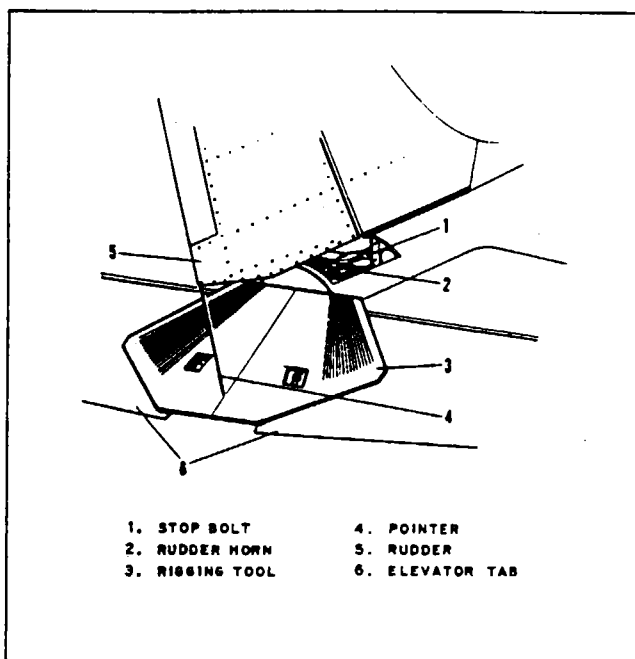

Figure 5-10. Installation of Rudder Rigging Tool
1. Connect the cable (7 and 8) to the rudder sector (17).
2. Draw the cable forward through the fuselage as shown in Figure 5-10.
- c. Rudder travel adjustment with the use of the fabricated rigging tool (refer to Figure 5-10) may be accomplished as follows: